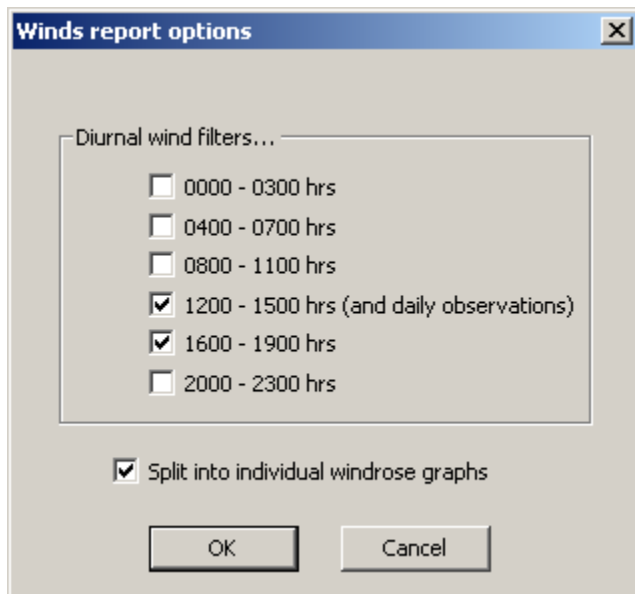

Figure 3-25—Setting the wind report options.
2) Open the **Wind report options** form (FFP menu bar→Weather→Winds, fig. 3-25).